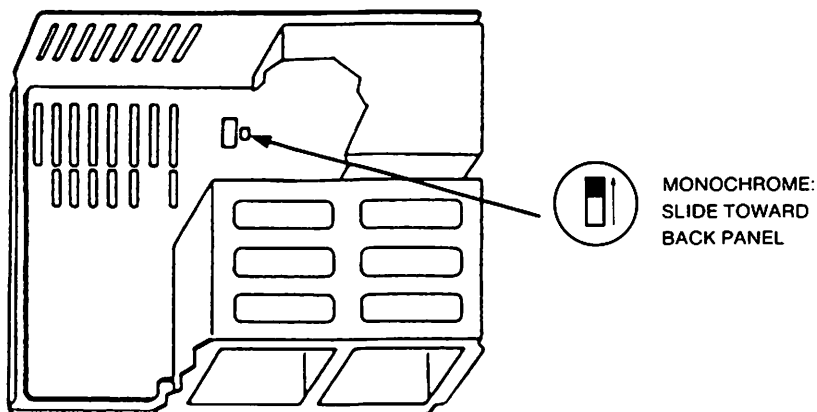

Figure 6B: SW1 in the IBM AT
- b. **In the IBM AT:** SW1 is a two-position slide switch. Move it to the monochrome position (toward the back of the chassis). See Figure 6B.